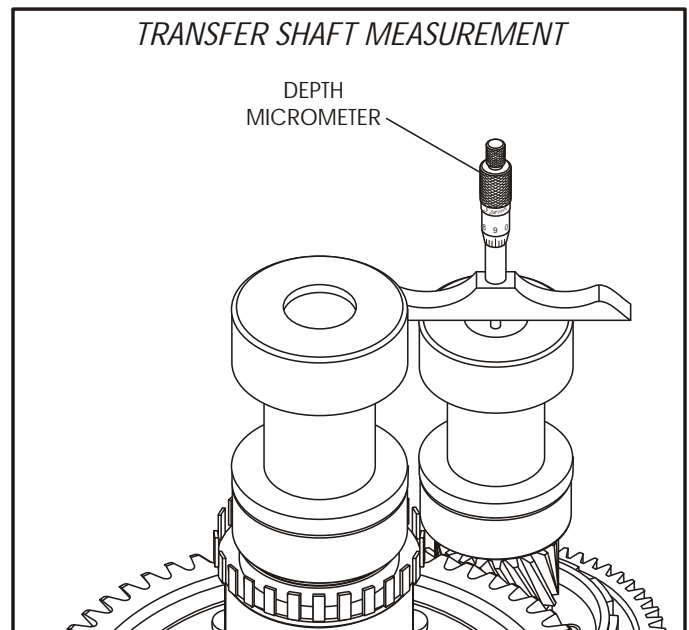

Figure 142
62. Measure the depth of the plunger on the special tool (307-417) for the transfer shaft bearing, using a depth micrometer (See Figure 142).